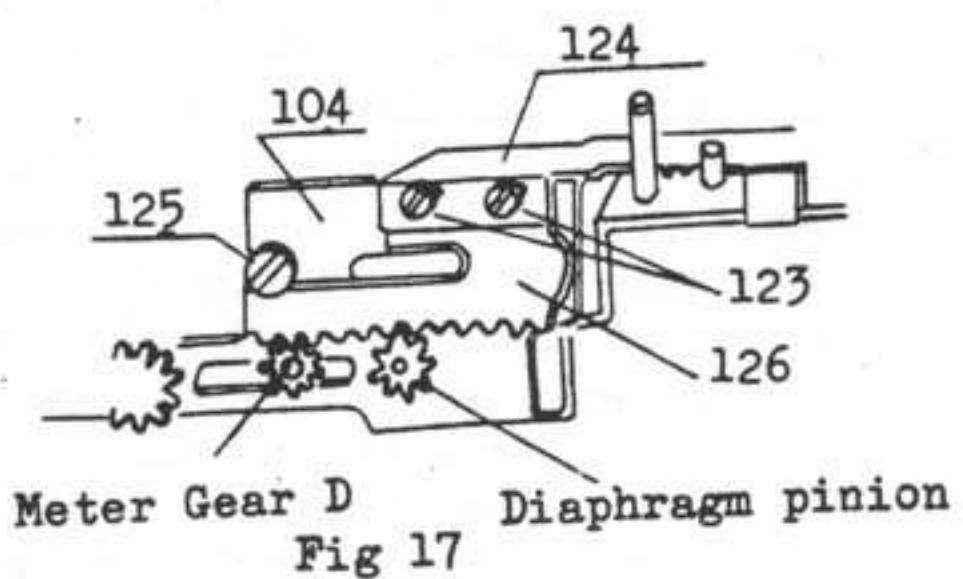
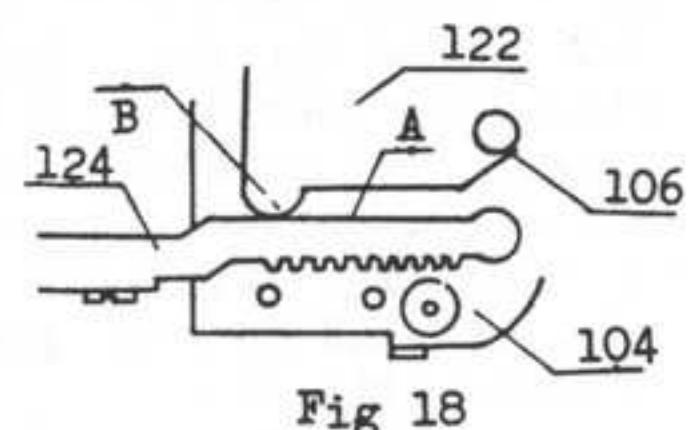
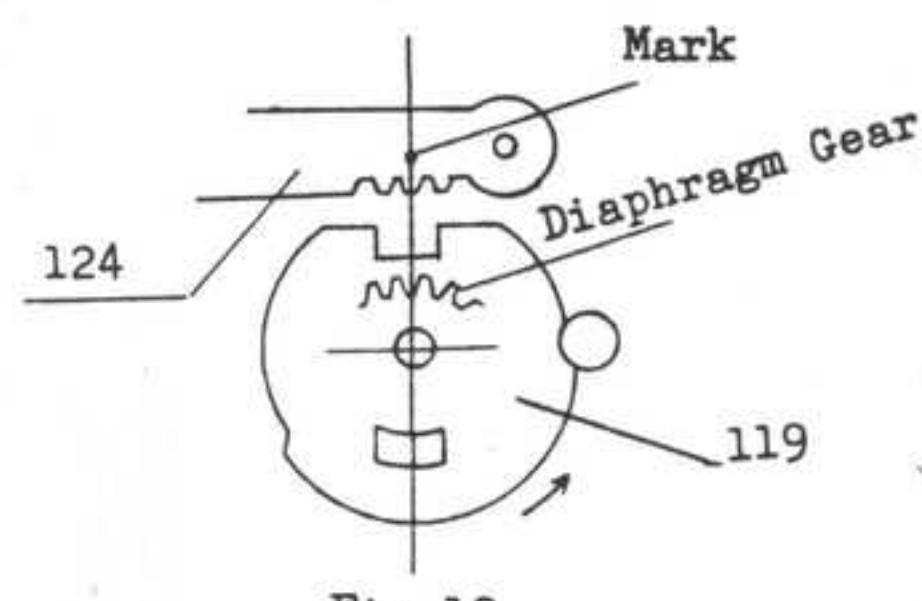
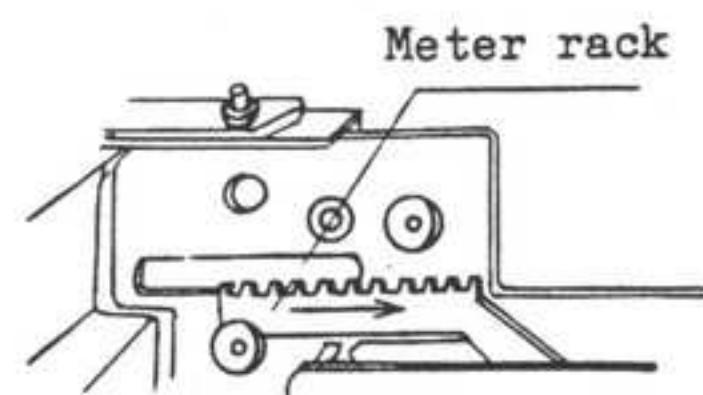

Fig 17
Fig 18
Fig 19
Fig 20
Fix Diaphragm rack B (126) to Gear plate (104) with Diaphragm rack B screw (125). Fix Diaphragm rack A (124) to Diaphragm rack B (126) with 2 Diaphragm rack A screws (123) positioned in the center of a long hole of Diaphragm rack A (124). (Fig. 17) Diaphragm rack A (124) should move by its own weight when it is tilted. Interlock Diaphragm dial stopper (119) with Diaphragm rack A (124). (Fig. 19) Fix Speed gear base (122) to Gear plate (104) with Tester base screw (106). Be sure that A, back of Diaphragm rack A (124), touches B, round part of Speed gear base (122) to prevent sideward shake. (Fig. 18) But it will not impair movement of Diaphragm rack. Place Diaphragm dial FW A (117) and FW B (118) and fasten with 1.5 Ø E - ring (116). Fix Speed dial click plate (115) to Gear plate (104) with S.D. click plate nut (113) and screw (114). Set Diaphragm dial stopper (119) in accordance with Fig. 19 and Meter rack, with Fig. 20 and Speed rack A (111), with Fig. 21-A and fix Speed rack B (112) with 2 Diaphragm rack A screws (110) positioned at the left edge of Speed rack A (111). (Fig. 21-B) Place Speed rack guide (109) underside of Speed rack B (112) and fix them with 2 screws (108), loosen 2 Diaphragm rack A screws (110), move them to the center of a long hole of Speed rack A (111) and tighten again. Be sure that Speed rack A (111) and B (112) and relevant gears move correctly and smoothly. Remove Tester base screw (106) from Gear plate (104) and fix S.D. click spring (107) with Tester base screw (106). Fix S.D. click spring (107) to Speed dial click plate (115) with S.D. click screw (105) in such a manner that the click part of S.D. Click spring (107) pushes the side of Speed dial click plate (115). Fixing position of S.D. click spring (107) should be so adjusted that the extreme point of S.D. click spring (107) falls in the cut of Speed dial click plate (115) on the side of 1/250 sec. and B evenly.